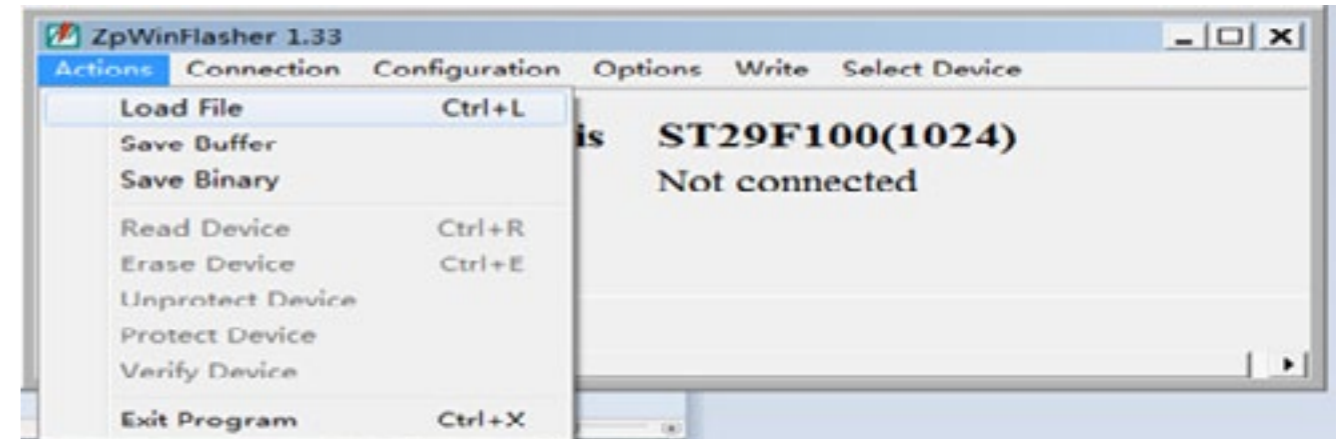

Fig.1.4
2. Import the program: Click "Actions"→"Load file" and select the program. Taking the P20PS forklift as an example, the controller mode of the forklift is AC-0, as shown in the Fig.1.4.